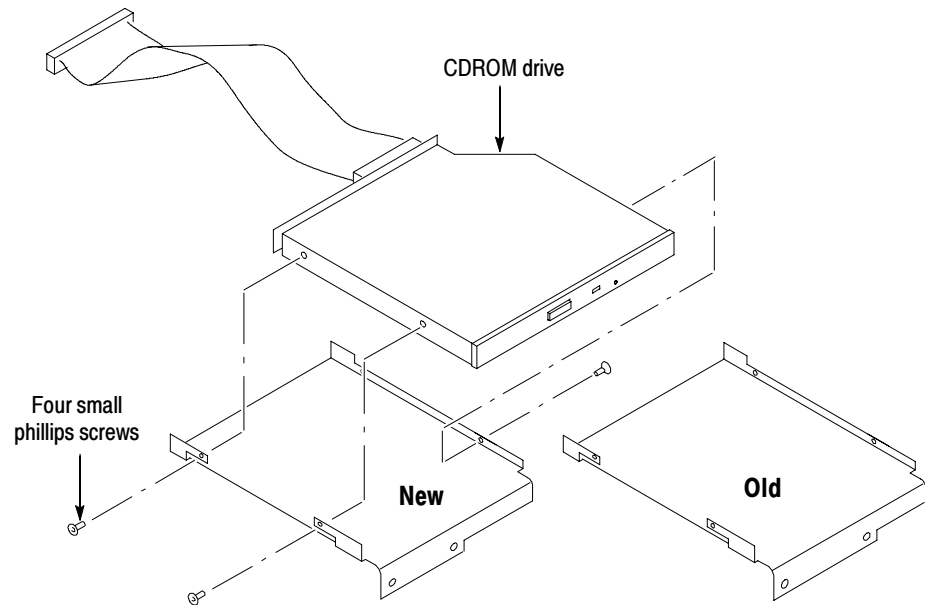

Figure 8: CDROM drive assembly
4. *Prepare the CDROM drive assembly:* The CDROM drive assembly removed from your instrument needs to be modified before installation into the new NLX board assembly. See Figure 8, page 20.